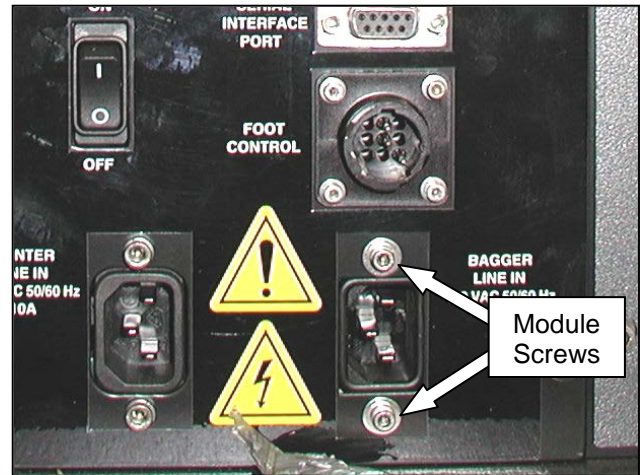

Figure 3-49. Line Filter Screws
4. Remove the two screws holding the Line Filter to the Rear Face Plate (Figure 3-49).